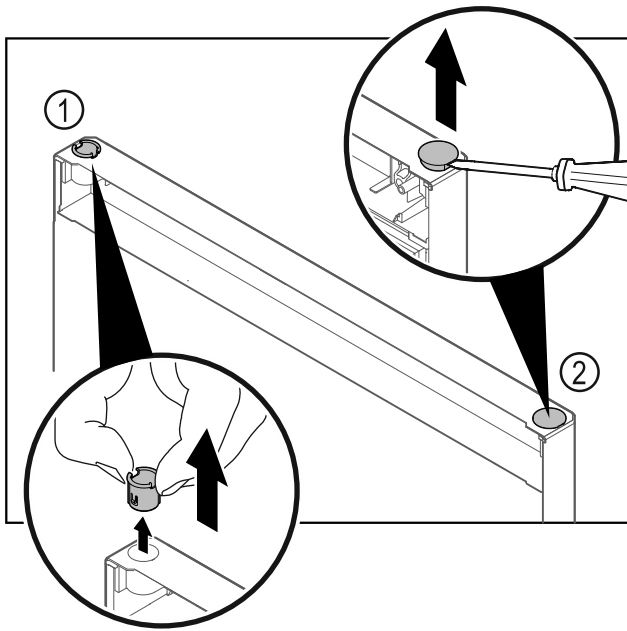

Fig. 40 Freezer compartment door
- ▶ Pull out the hinge bushing Fig. 40 (1) with your fingers.
- ▶ Carefully lift the cover plug Fig. 40 (2) with a slotted screwdriver and pull it out.